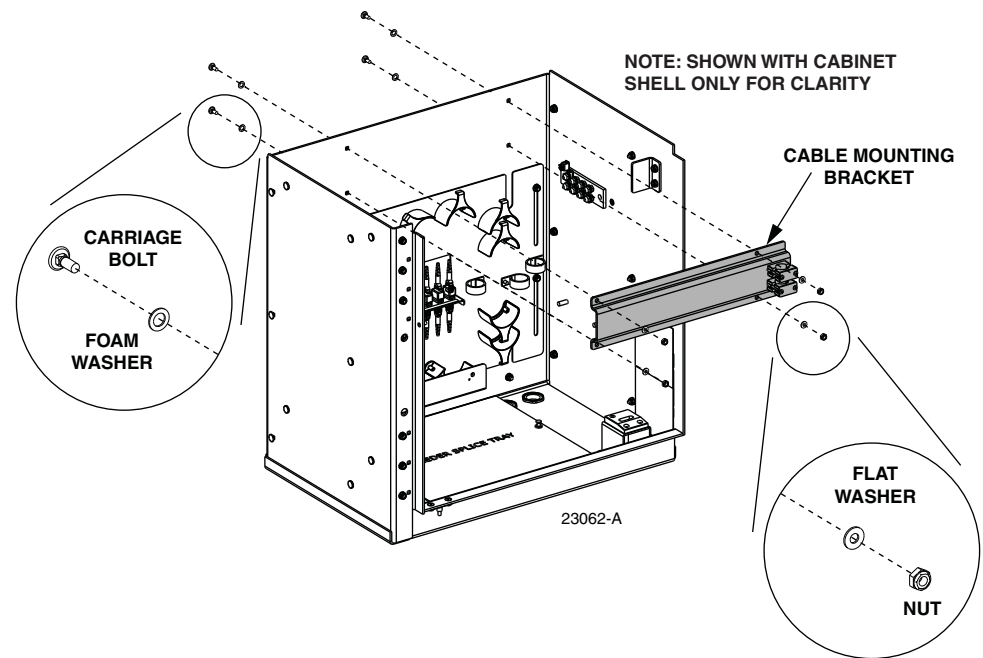

Figure 26. Locate and Remove Cable Mounting Bracket
5. Locate the cable clamp bracket that is mounted at the upper back side of the cabinet as shown in Figure 26.
7. Remove the cable mounting bracket from the cabinet (see Figure 26).